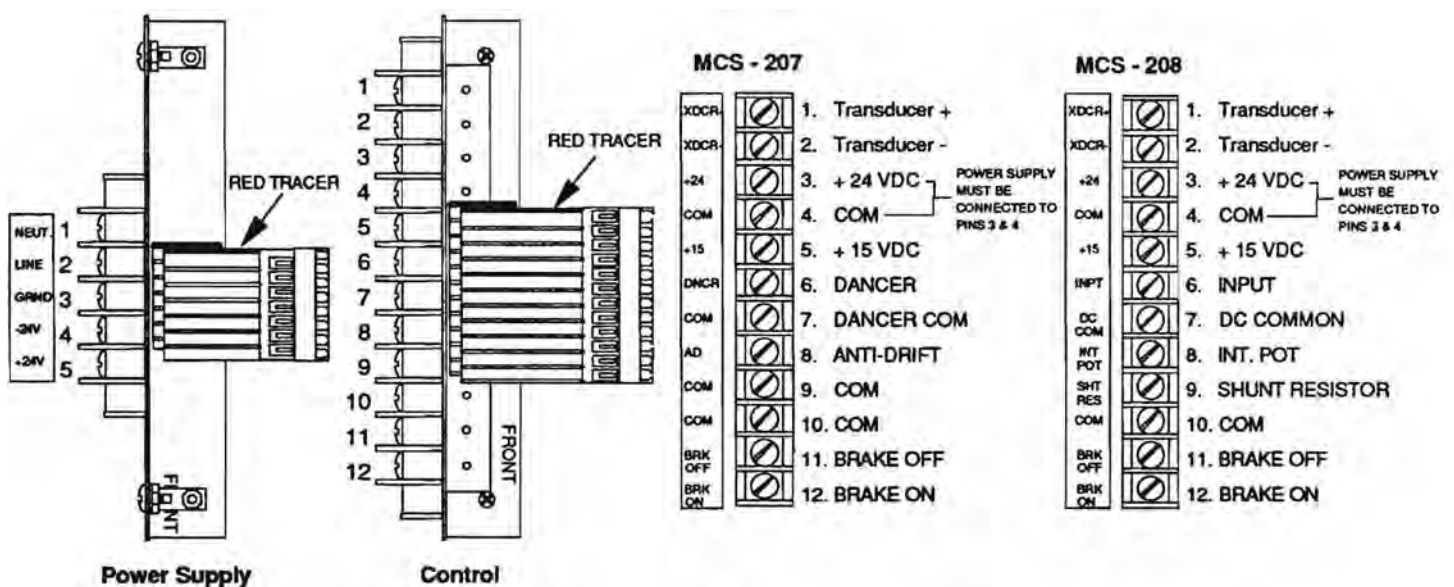

Figure 7. Terminal strip label orientation for Panel Mount
5. Apply the terminal strip label to the housing panel near the terminal block as shown in Figure 7.